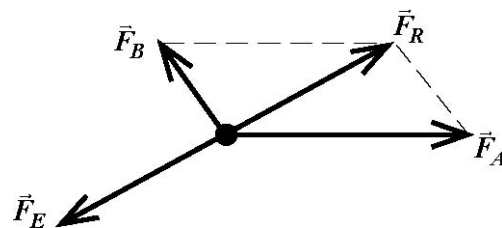

Figure 9: The Equilibrant balances the resultant
Two forces are applied on the force table by hanging masses over pulleys positioned at certain angles. Then the angle and mass hung over a third pulley are adjusted until it balances the other two forces. This third force is called the equilibrant (\vec{F}_E) since it is the force which establishes equilibrium. The equilibrant is not the same as the resultant (\vec{F}_R). The resultant is the addition of the two forces. While the equilibrant is equal in magnitude to the resultant, it is in the opposite direction because it balances the resultant (see Figure 9). So the equilibrant is the negative of the resultant:
7. The equilibrant is equal in magnitude to the resultant, but acts in the opposite direction because it balances the resultant (see Figure 9). In order to work out